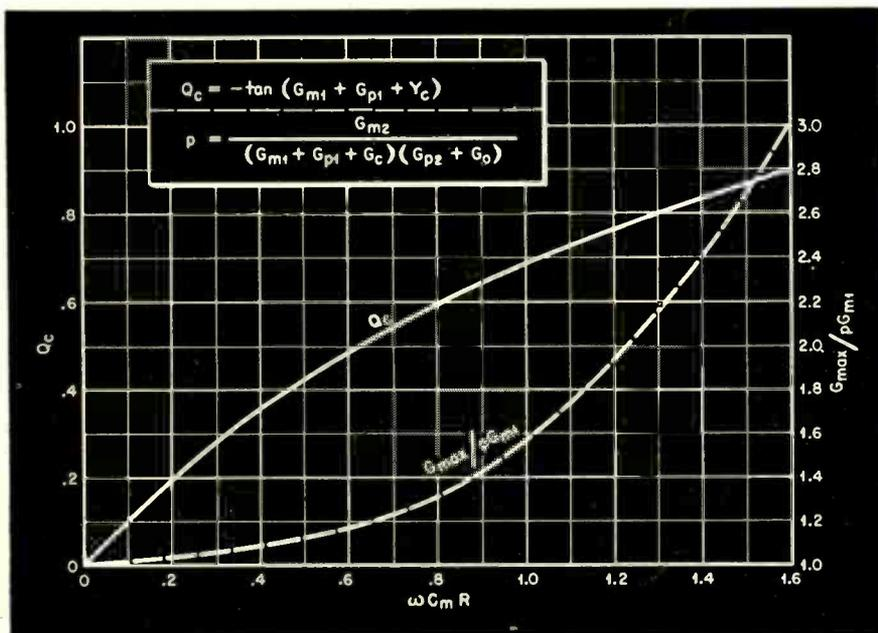

Fig. 5. Plots of equations (17) and (18)
Equations (17) and (18) are plotted in Fig. 5. These plots are helpful in designing a circuit of this kind and in anticipating its performance. The procedure is as follows:
2) Q_o is determined by using the plot in Fig. 5.
4) The overall gain is evaluated with the help of Fig. 5. This value is available only when the plate load is tuned to maximum output; by doing this, the condition $Q_c = Q_o$ is automatically fulfilled.